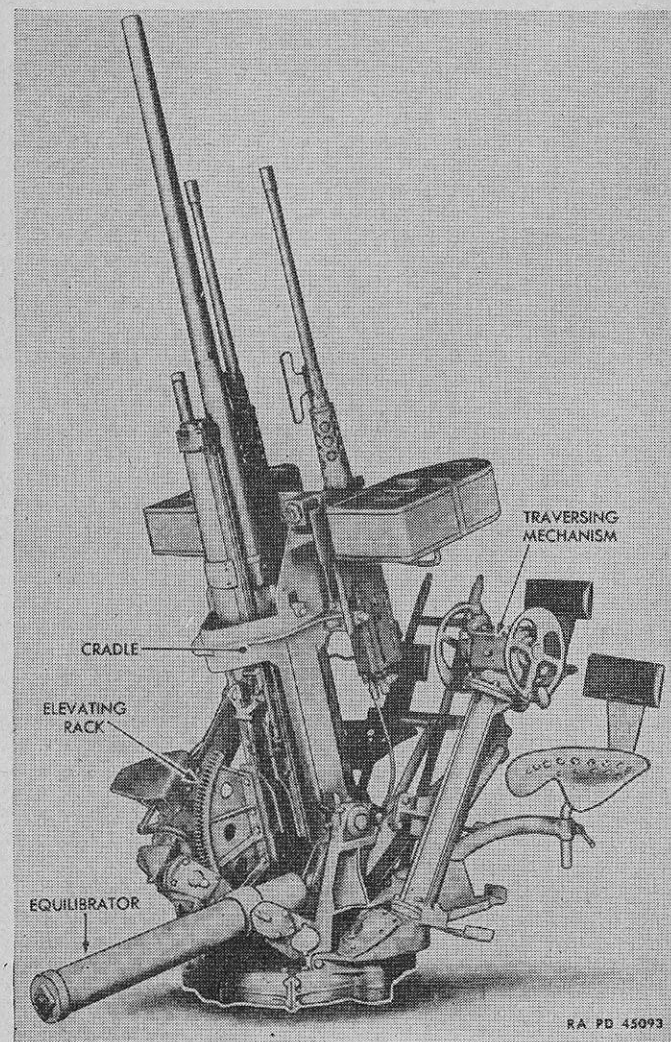

FIGURE 8.—Traversing mechanism.
■ 20. TRAVERSING MECHANISM.—The traversing mechanism (fig. 8) is contained in the upright post on the left of the mount. Two handwheels are provided for traversing the mount. By sliding the handwheels laterally along their axes, either a fast or slow motion can be obtained. Complete 360° traverse is obtainable. Slow motion traverses the mount 3.75° for one turn of the handwheel. Fast motion traverses the mount 11.25° for one turn of the handwheel.